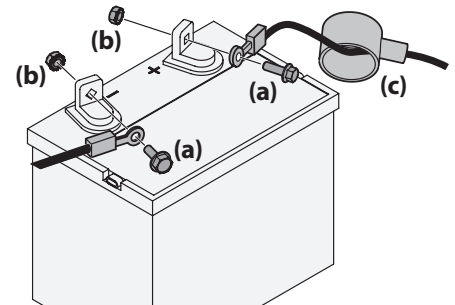

Figure 2
1. Remove the plastic cover, if present, from the positive battery terminal and attach the red cable to the positive battery terminal (+) with the bolt (a) and sems nut (b). See Figure 2.
2. Remove the plastic cover, if present, from the negative battery terminal and attach the black cable to the negative battery terminal (-) with the bolt (a) and sems nut (b). See Figure 2.